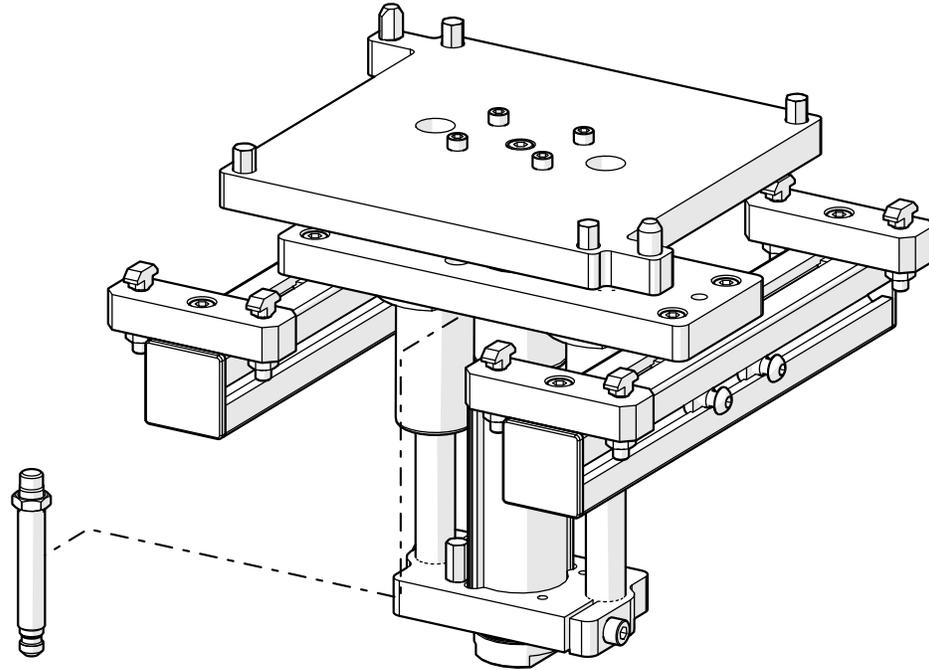

Figure 14: Removed P-00179
**Step 1: Remove Jam Nut as shown in Figure 14.**